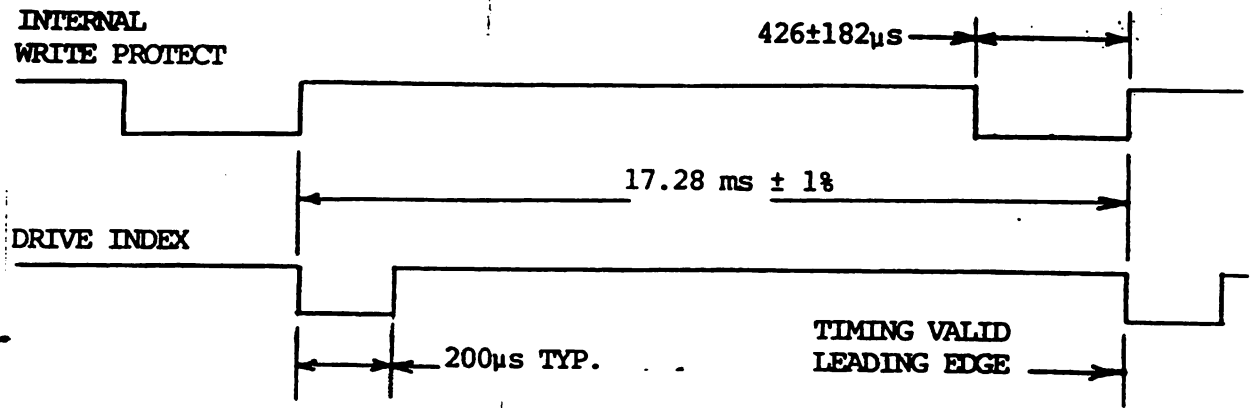

Figure 4-9. Index timing.
-INDEX is an interface signal provided by the drive once each revolution to indicate the beginning of a track. Normally, this signal is in the inactive state and makes the transition to the active state to indicate the index sector. Only the leading edge transition is valid (see Figure 4-9). -INDEX will not appear when -SEEK COMPLETE is false.